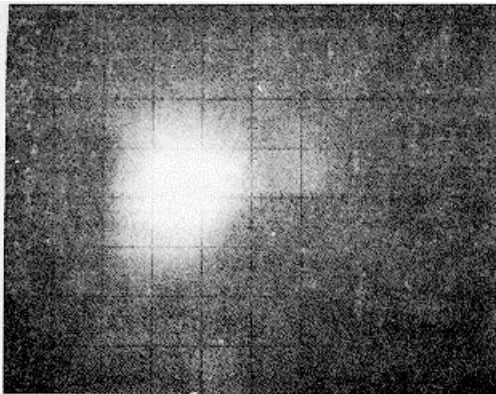

Figure 3-7. Fade positive after 2 to 4 minutes in STD mode.
g. Fade positive. Appears as random green areas on a dark background in MAX PERSISTENCE mode, figure 3-7.
h. Background illumination. A green cloud of illumination visible on the CRT screen, figure 3-7.